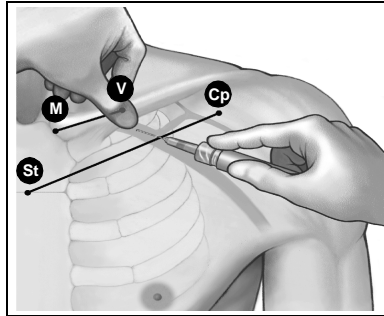

Figure 2. Location of thumb and needle entry.
4. Press a thumb against the index finger and project one or two centimeters below the clavicle to shield the subclavius muscle from the needle (when hypertrophy of the pectoralis muscle is apparent, the thumb should project about two centimeters below the clavicle because the subclavius muscle should be hypertrophied as well) (Figure 2).